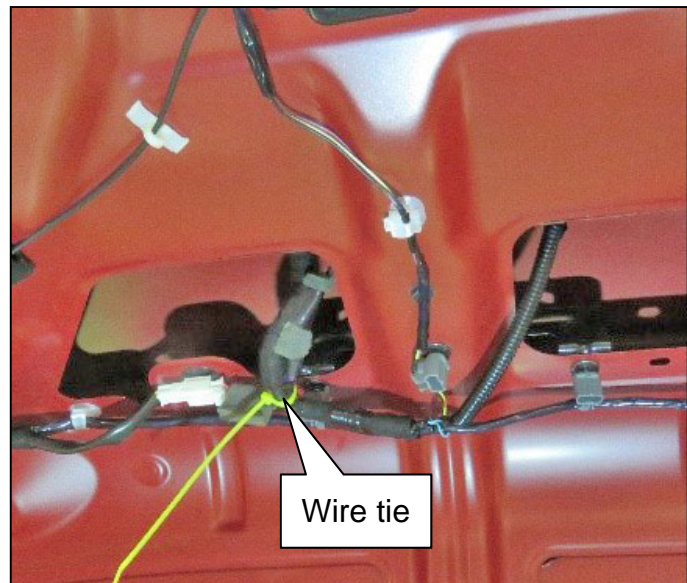

Figure 15
15. Place one (1) wire tie securely around the wiring harnesses where they were taped together in step 8 on page 6, as shown in Figure 15.